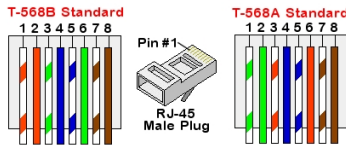

Figure 20: Standard cable wiring
- c. Insert the eight wires into an RJ45 connector (see *Figure 20*).